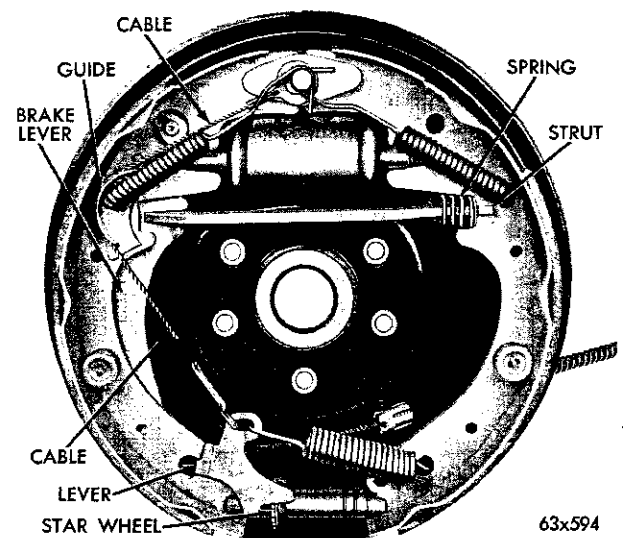

Fig. 5—Automatic Brake Adjuster Rear
(2) Remove the brake shoe retainer, spring and rods, as shown in Figure 5.
(3) Remove the anchor pin plate.
(4) Remove the primary and secondary brake shoe assembly from the backing plate.
(5) Overlap the anchor ends of the primary and
- (3) Remove the brake shoe retainer, spring and rods, (Refer to Fig. 5).
- (4) Remove the anchor pin plate and tilt the brake shoe assembly out from the backing plate.
- (5) Spread the anchor ends of the primary and secondary shoes and remove the parking brake strut and spring.
- (6) Disengage the parking brake cable from the parking brake lever and remove the brake assembly.
- (7) Overlap the anchor ends of the primary and secondary shoes and remove the adjusting screw, adjusting lever, adjusting spring, cable and cable guide.
(Refer to Fig. 5.) The star adjusting wheels are stamped "R" (right side) and "L" (left side), and indicate their location on the vehicle.
- (1) Inspect the platforms of the backing plate for nicks or burrs. Apply a thin coat of lubricant to the backing plate platforms.
- (2) Attach the parking brake lever to the back side of the secondary shoe. (Refer to Fig. 5.)
- (3) Place the secondary and a primary shoe in their relative position on a work bench.
- (4) Lubricate the threads of the adjusting screw and install it between the primary and secondary shoes with the star wheel next to the secondary shoe. The star adjusting wheels are stamped "R" (right side) and "L" (left side), and indicate their location on the vehicle.
- (5) Overlap the anchor ends of the primary and the secondary brake shoes and install the adjusting spring and lever.
- (6) Holding the brake shoes in their relative position and engage the parking brake cable into the parking brake lever.
- (7) Place the brake shoes on the backing plate and install the retainer rods, cups, springs and retainers.
- (8) Install the parking brake strut and spring between the parking brake lever and the primary shoe. (Refer to Fig. 5.)